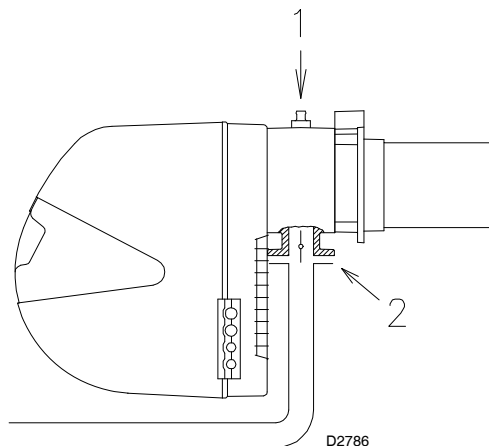

Fig. 19
Gas manifold pressure measured at test point 1)(Fig. 19), with:
- subtract the combustion chamber pressure from the gas pressure measured at test point 1)(Fig. 19);
- Gas pressure at test point 1)(Fig. 19) = 3.69" WC